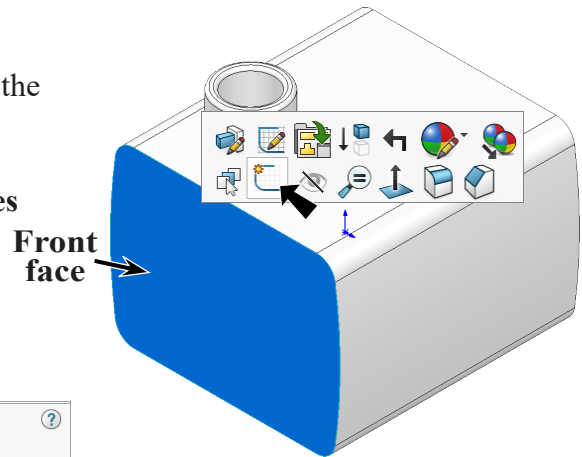

Fig. 22
Step 1. Click the **front face** and click **Sketch**  on the context toolbar, **Fig. 22**.